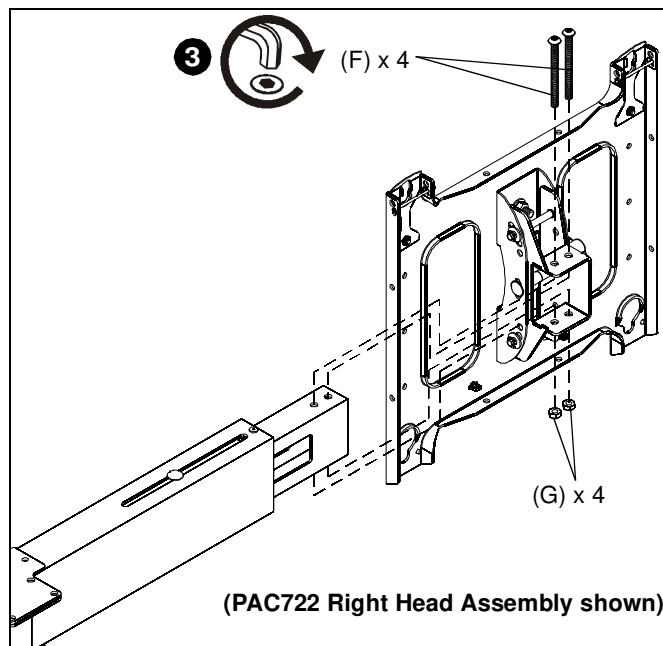

Figure 3
3. Attach faceplates (B and C) **OR** (D and E) to the extension assembly (A) using two 5/16-18 x 3-1/2" button head cap screws (F) and two 5/16" locking nuts (G) for each faceplate. (See Figure 3)